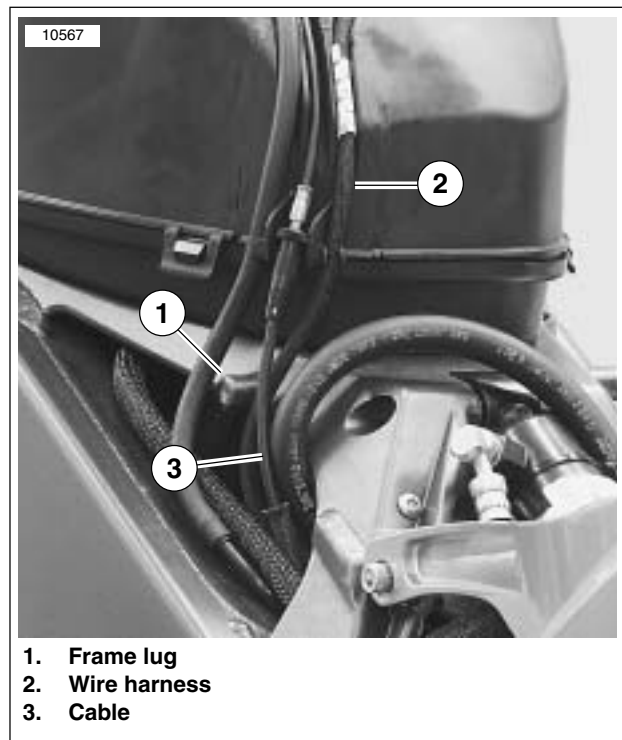

Figure 7-86. Correct Cable Routing Behind Frame Lug
4. See Figure 7-86. Verify that the interactive exhaust cable (2) is routed behind the frame lug (1) before installing air intake cover.